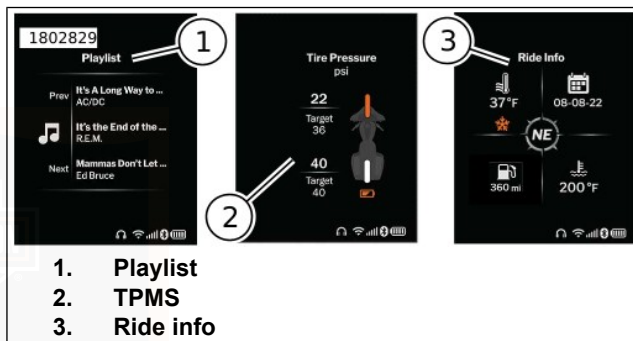

Figure 37. Widget Options
See Figure 37. **Playlist:** The Playlist widget (1) displays the current playlist information from a connected device. This information includes song title and artist name.
**TPMS:** The Tire Pressure Monitoring System (TPMS) widget (2) displays tire pressure data for front and rear tire. Top number displayed for front and rear tires is the actual read tire pressure. Target indicates the systems desired tire pressure based on environmental conditions.
**Ride Info:** The Ride Info widget (3) displays ambient temperature, date, average fuel mileage and coolant temperature.